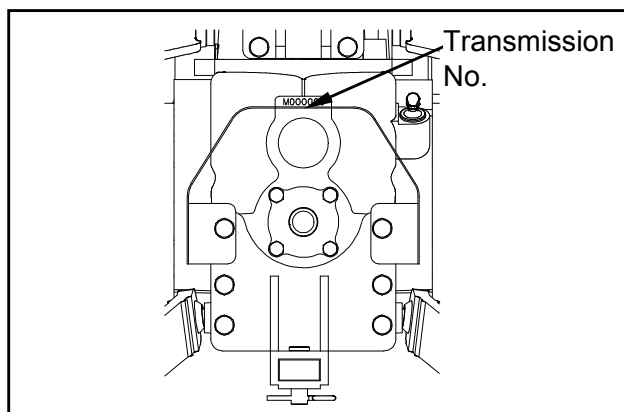

Fig.1-3
- Transmission No. : on the rear of the transmission case. (See Fig. 1-3)